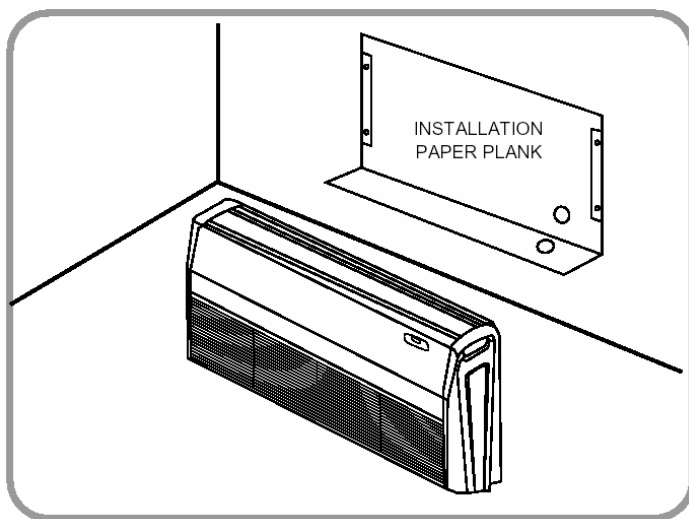

Fig.2
(1) Determine the mounting position on ceiling or wall by using paper pattern to indicate indoor frame. Mark the pattern and pull out the paper pattern. (Refer to Fig.2)
(2) Remove the return grill, the side panel and the hanger bracket from the indoor unit as per procedure bellow.